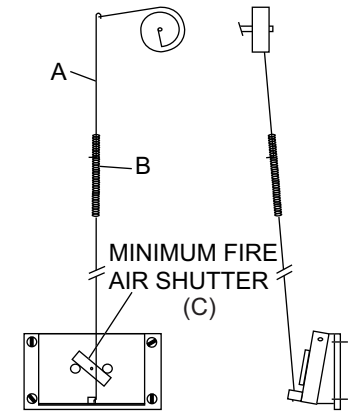

Fig. 10
- A. To increase the amount of heat at a "HIGH" setting, adjust the wire linkage to increase the draft damper opening (Fig. 10).